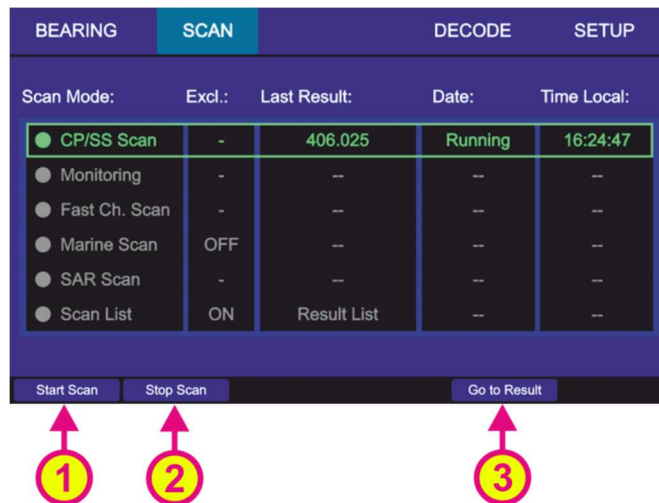

Figure 28. "Cospas-Sarsat Scan" mode has been activated
- To start the "Cospas-Sarsat Scan" mode select the corresponding line on the "Scan" page and press "OK" or the hotkey "Start Scan" (s. Figure 28, position 1)
- Pressing the hotkey "Stop Scan" (s. Figure 28, position 2) will terminate the current scan mode and change to the bearing of the frequency, that was set before the scan mode has been activated.
- Pressing the hotkey “Go to Result” (s. Figure 28, position 3) during the Cospas-Sarsat scan is running, will terminate the scan mode, adopt the frequency which was found in this scan last time and change to the “Bearing” page.
- Pressing the hotkey “Go to Result” (s. Figure 28, position 3) during the monitoring is currently running, will terminate the scan mode, adopt the frequency which was found in this scan last time and change to the “Bearing” page.